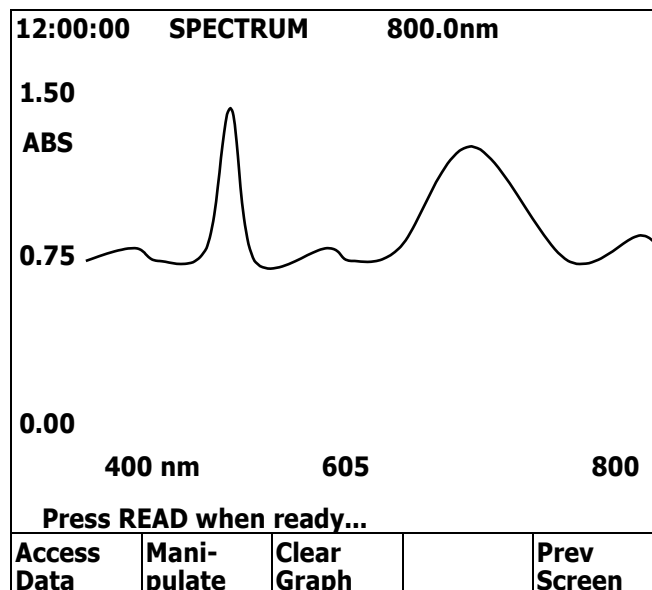

Figure 6.3 Measuring result in Spectrum screen
Step 3. Make the sample ready and press READ. The measurement result will be displayed in the Spectrum screen (Figure 6.3) in real-time mode. The upper right corner of the screen will show the current wavelength and the current reading.